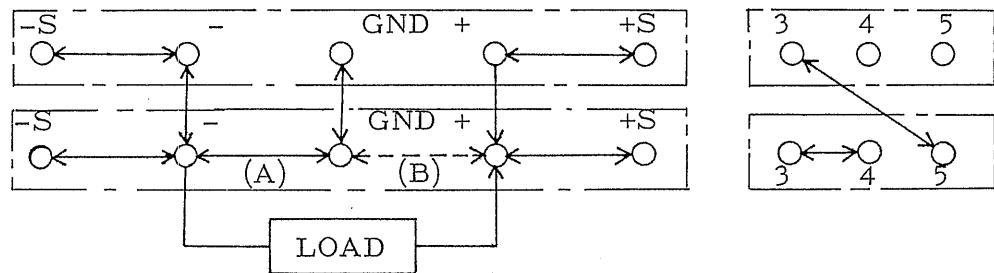

Fig. 3-10 One-control parallel operation master, slave,load
- 1 ) Connect the terminals on the rear panel of the master to the slave and the load as shown in Fig. 3-10.